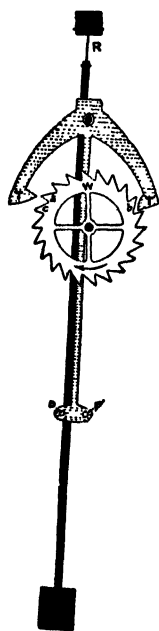

FIG. 218.—How the pendulum regulates a clock.
The pendulum of a clock is usually hung on a very thin ribbon of spring steel (R). As it swings back and forward, it bears against two pins P and P'. The crutch (shaded in Fig. 218) which is pivoted at the top therefore swings backwards and forwards with the pendulum. The crutch carries two pallets, T, T', which engage with the teeth of a ratchet wheel W. This wheel is geared to the train of wheels by which the weights drive the hands. *The hands cannot move unless the ratchet wheel moves too.* In
Fig. 218 the pendulum is not quite yet at the left hand end of its swing. The pallet T has just released the tooth *a*; the drive of the clock makes the wheel fly on until the tooth *b* strikes against the pallet T'. The pendulum finishes its stroke and so pushes *b* back a little in an anti-clockwise direction. This can often be seen in old clocks: in these the second hands visibly recoil at the end of each pendulum swing. The pendulum now starts back to the right. The tooth *b* as it goes back to the position from which it recoiled gives the pendulum a push and it is this push which provides the power that keeps it swinging. The pendulum now travels over to the right and just as tooth *b* has almost escaped from pallet T', pallet T comes in and engages tooth C. This will not be released again till the pendulum gets back to the left hand end of its swing. It is clear now that the escapement wheel can move only one tooth for each double journey of the pendulum. If the pendulum is regulated, as is usual, so that the double swing takes one second, the escapement wheel, which has 60 teeth, will get round once in a minute. (Fig. 218 shows only 30 teeth—for simplicity.) In this case, the escapement wheel may be attached directly to the second hand, the other gears being arranged so that the minute hand goes sixty times more slowly, and the hour hand twelve times slower still.